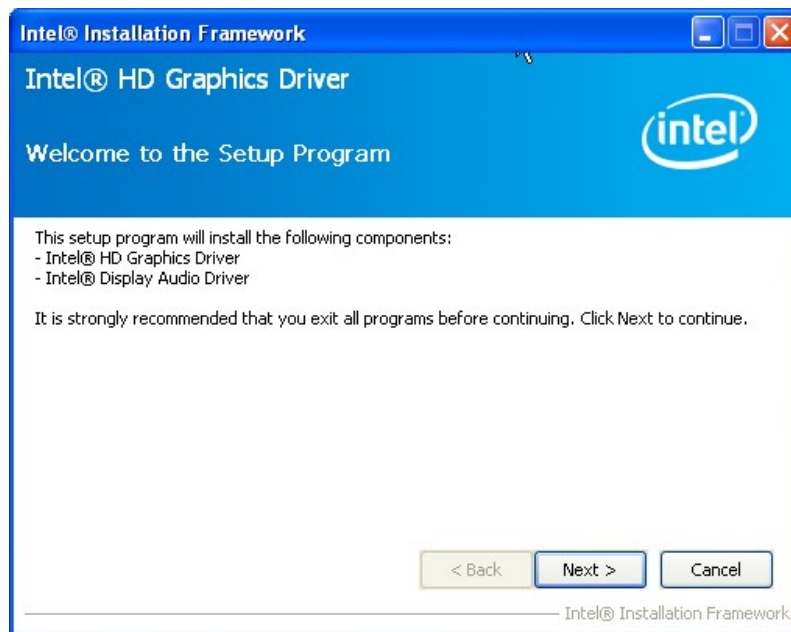

Figure 6-8: Graphics Driver Welcome Screen
- Step 4:** The **Welcome Screen** in **Figure 6-8** appears. Click **Next** to continue.